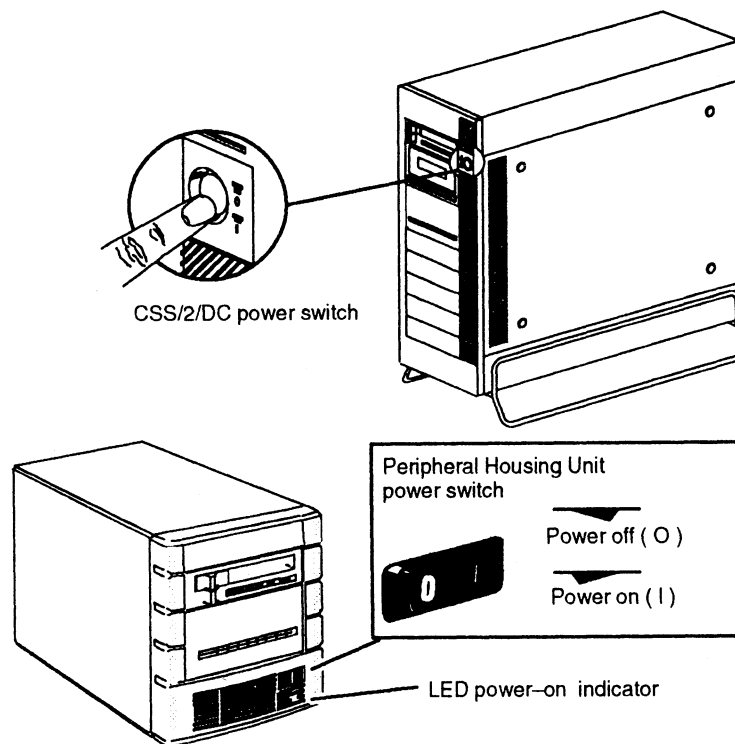

Figure D-2 Peripheral Housing Unit (PHU) and Combined Storage Subsystem Deskside Chassis (CSS2/DC) Power Switch
2. If you have a Peripheral Housing Unit (PHU), a combined storage subsystem (CSS2/DC), or another external peripheral unit connected to your computer system, turn on power to that device. Figure Figure D-2 shows how to turn on power to a PHU or CSS/DC.